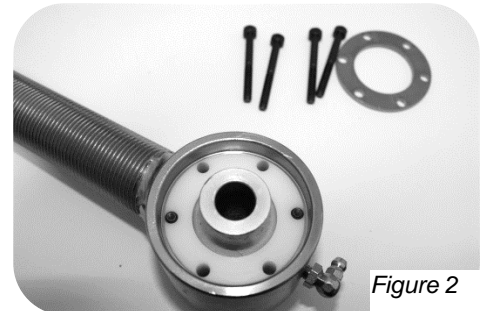

Figure 2
4. Place the ball in the race (inside the flex end). The ball should perfectly fit the contour of the race. (Figure 2)